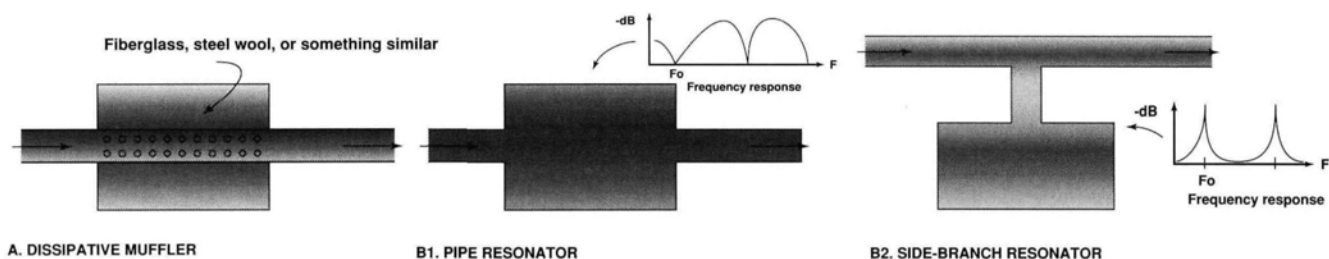

Figure 4.
• **Reactive muffler.** This consists of a number of chambers and pipes that present a mismatch in terms of size and length in relation to the frequencies involved, and the sound energy is reflected back and forth within the muffler and is consumed there. There are two types: the pipe resonator and side-branch resonator. Auto mufflers are usually a complex combination of these mufflers. Figure 4 shows these mufflers in their simplest form.